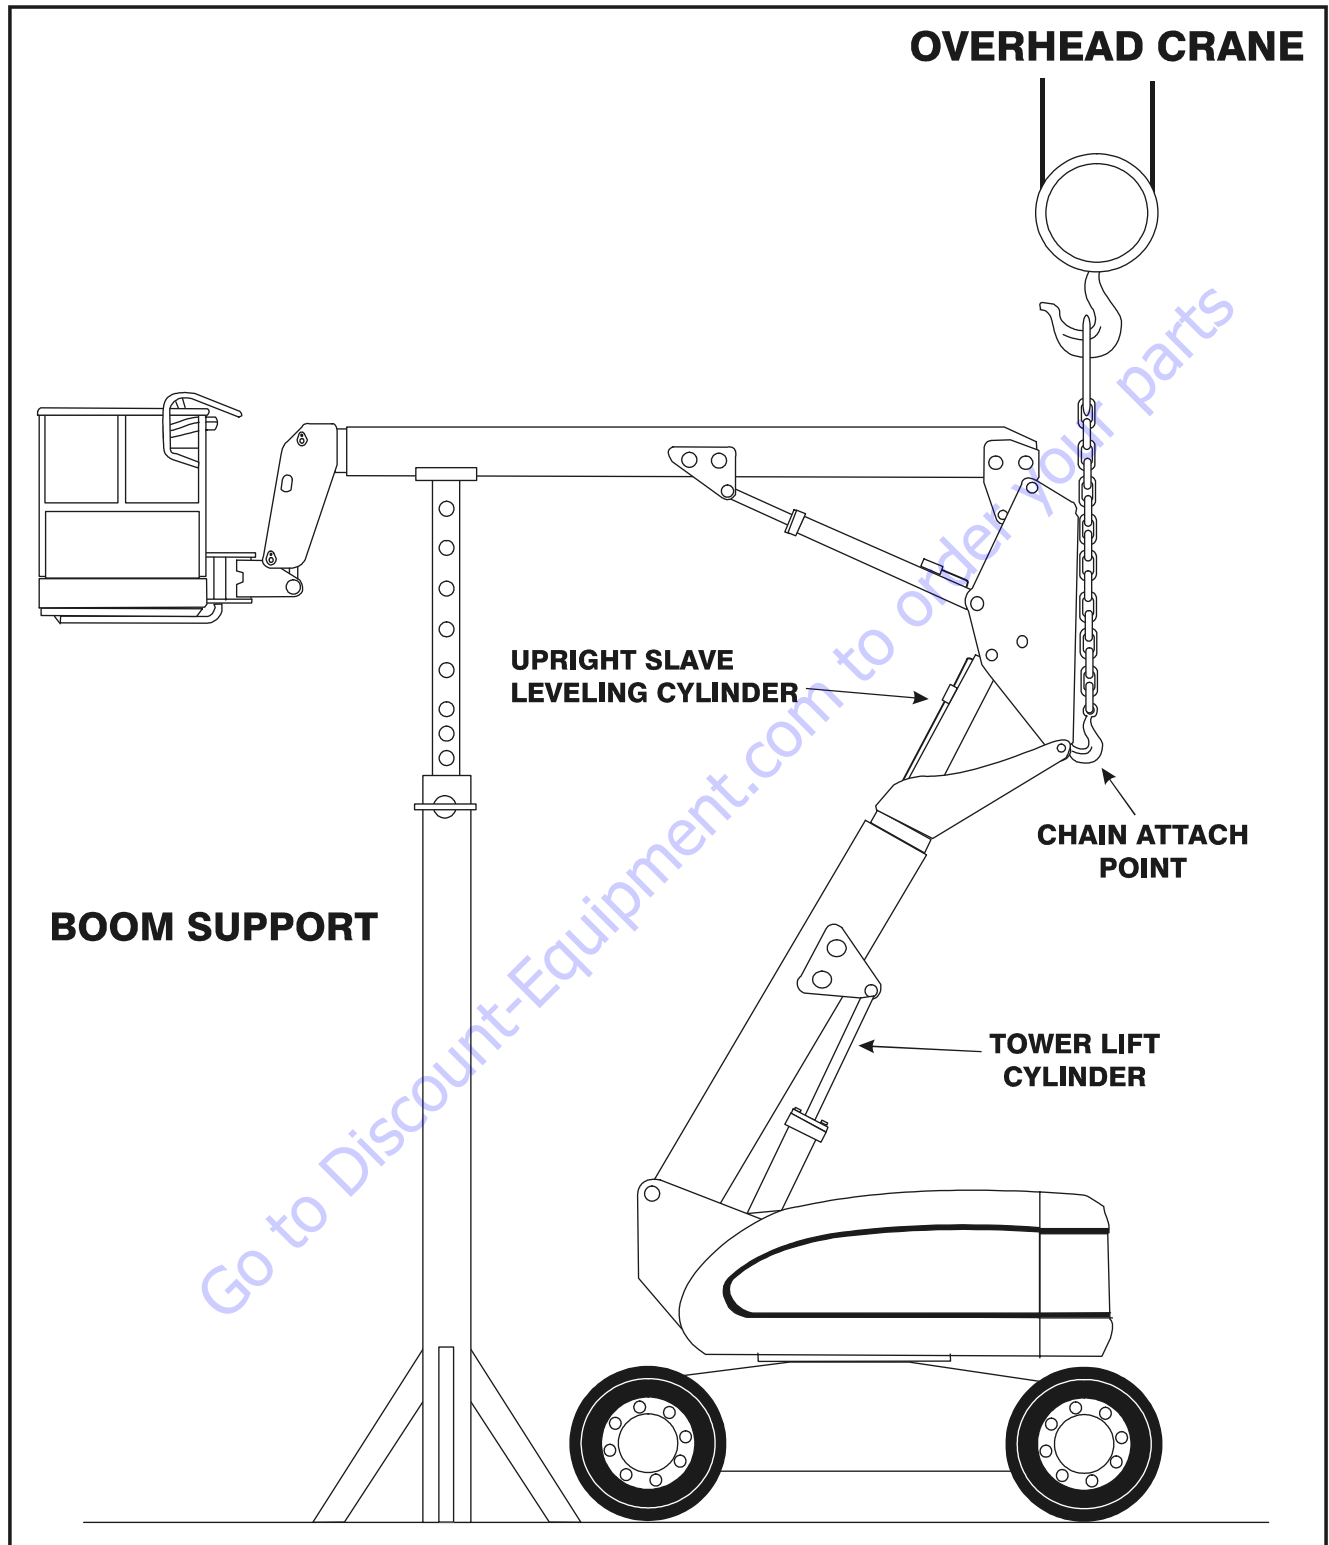

Figure 5-19. Boom Positioning and Support, Cylinder Repair (A Models)
2. Shut down engine. Support main boom basket end with a prop (See Figure 5-19., Boom Positioning and Support, Cylinder Repair (A Models).
1. Place the machine on a flat and level surface. Start the engine and place the main boom in the horizontal position. Shut down engine and prop the boom. (See Figure 5-19., Boom Positioning and Support, Cylinder Repair (A Models).
1. Place machine on a flat and level surface. Place the main boom in a horizontal position with the telescope cylinder fully retracted. Place the tower boom in a fully elevated and fully retracted position (See Figure 5-19., Boom Positioning and Support, Cylinder Repair (A Models).
2. Support the main boom with a prop. Support the upright with an overhead crane. (See Figure 5-19., Boom Positioning and Support, Cylinder Repair (A Models).
1. With the main boom and tower boom positioned and supported as in Figure 5-19., Boom Positioning and Support, Cylinder Repair (A Models), place the tower lift cylinder in position on the turntable and secure in place using slings.